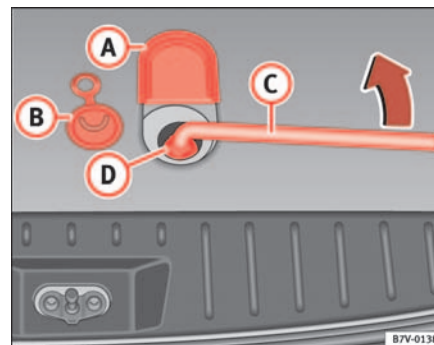

Fig. 153 Taking out the spare wheel
1. Lift the cover **(A)** ⇒ fig. 153 located on the floor of the luggage compartment, next to the tailgate lock.
4. Remove the box spanner ⇒ page 231, fig. 153 **C** and turn the bolt on the floor of the luggage compartment several times to the right, until the defective wheel is firmly secured against the inside of the luggage compartment floor ⇒ **!** in “Taking out the spare wheel” on page 231.
5. Close the opening with the rubber seal ⇒ page 231, fig. 153 **B** and lower the cover **A**.